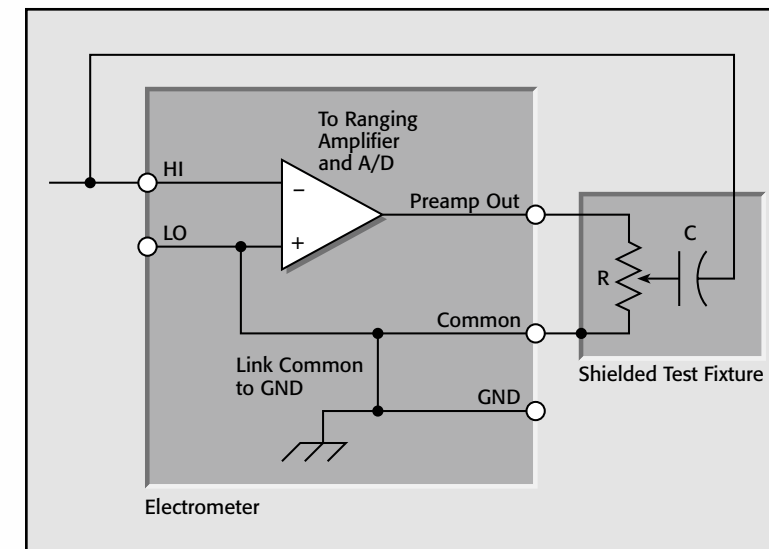

Figure 12: External Damping Circuit
Figure 12 illustrates an example of an external damping circuit. This circuit consists of a low leakage polystyrene or polyester capacitor (C) and a potentiometer (R). The potentiometer is connected between the preamp output and the common (or LO) terminal of the ammeter. The capacitor is connected between the HI input terminal of the ammeter and the moving arm of the potentiometer. The value of the capacitor depends on the current range of the ammeter. Higher ranges require the use of higher